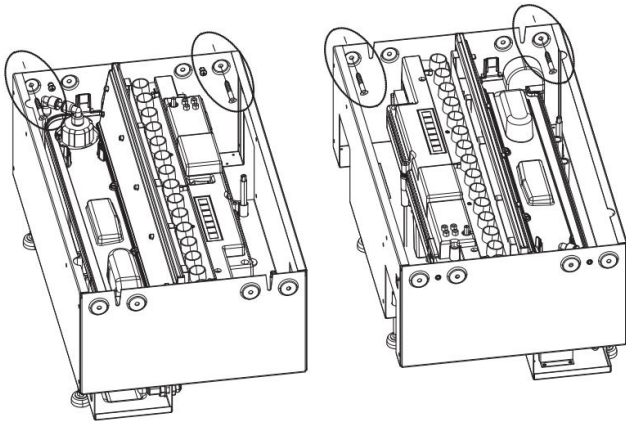

Fig.8
4. With the product in its final position, remove the top plate and using suitable screws (not provided) screw the product 6 to the surround using the four fixing holes shown in Fig 8.